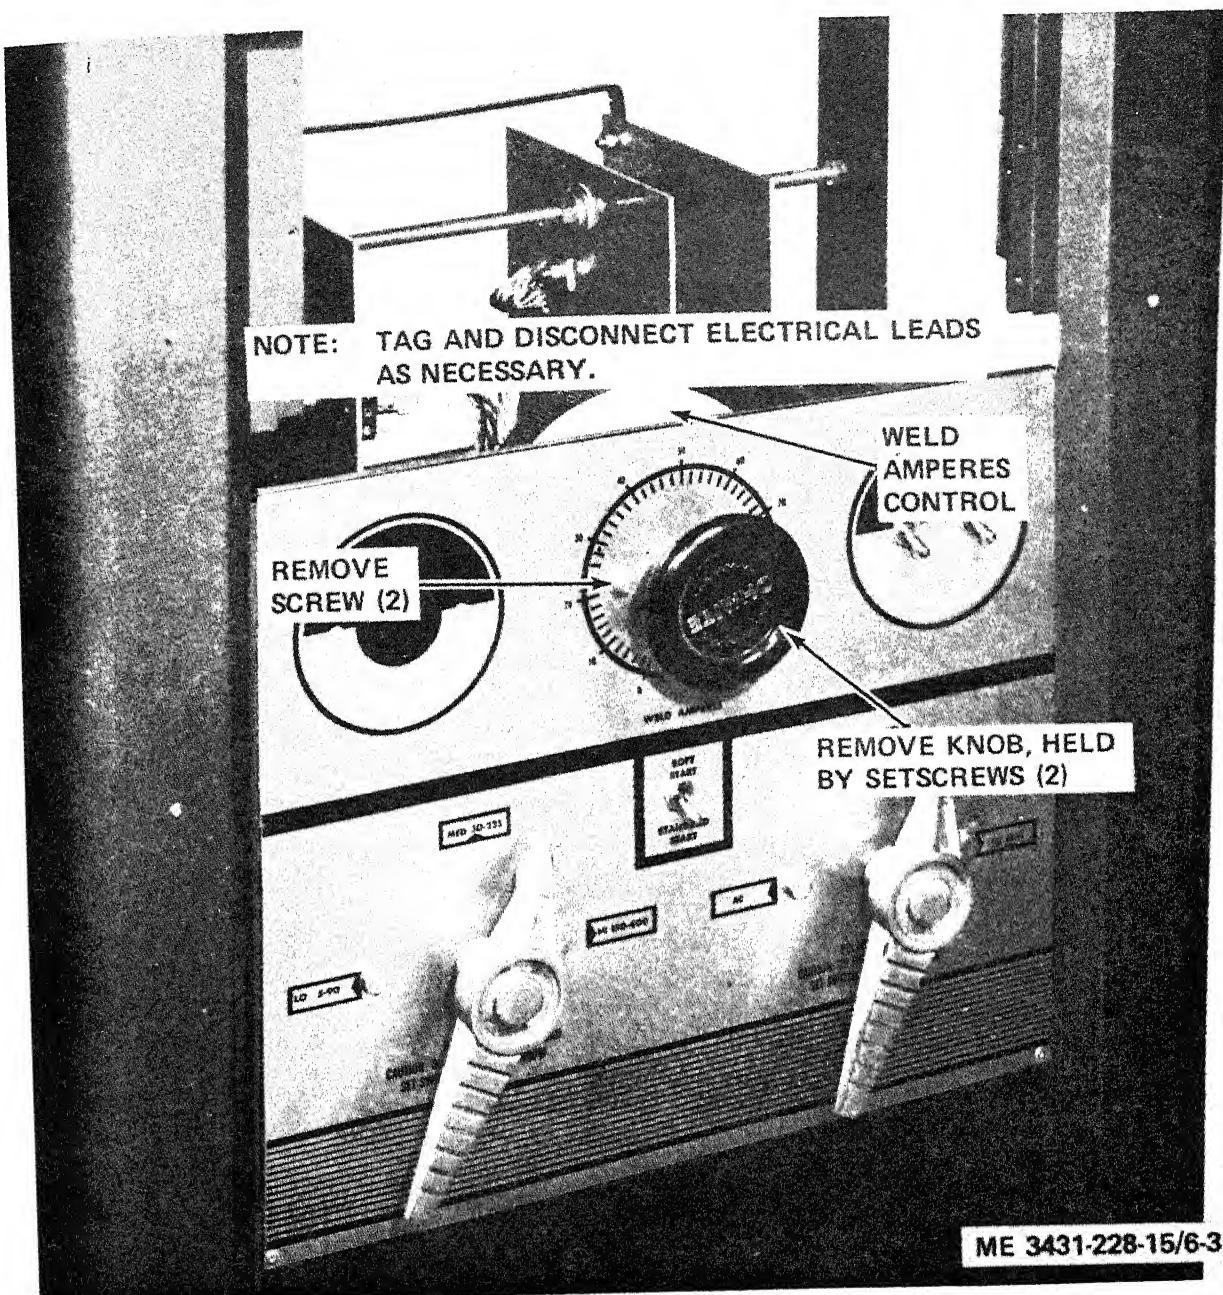

Figure 6-3. Weld amperes control rheostat, removal and installation.
(1) Disconnect ac power from the welding machine.
(2) Remove the timer and high frequency drawer (para 3-19).
(3) Remove the top and housing from the welding machine (para 3-20).
(4) Refer to figure 6-3 and remove the WELD AMPERES control rheostat from the rear of the panel.
(1) Refer to figure 6-3 and install the WELD AMPERES control rheostat.
(2) Install the screws along the bottom edge of the front panel.
(3) Install the top and housing (para 3-20).
(4) Install the timer and high frequency drawer (para 3-19).